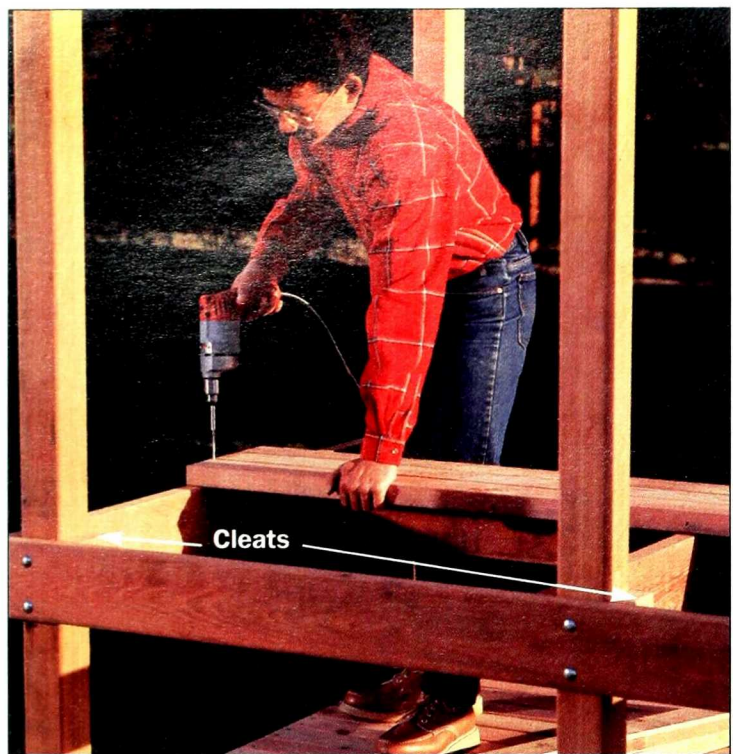

Figure 5: Attach decking with 3-inch weatherproof screws in pilot holes. Cleats are screwed on where extra support is needed.
- Screw on the cleats for added support, cut the decking to length, and attach (Figure 5).